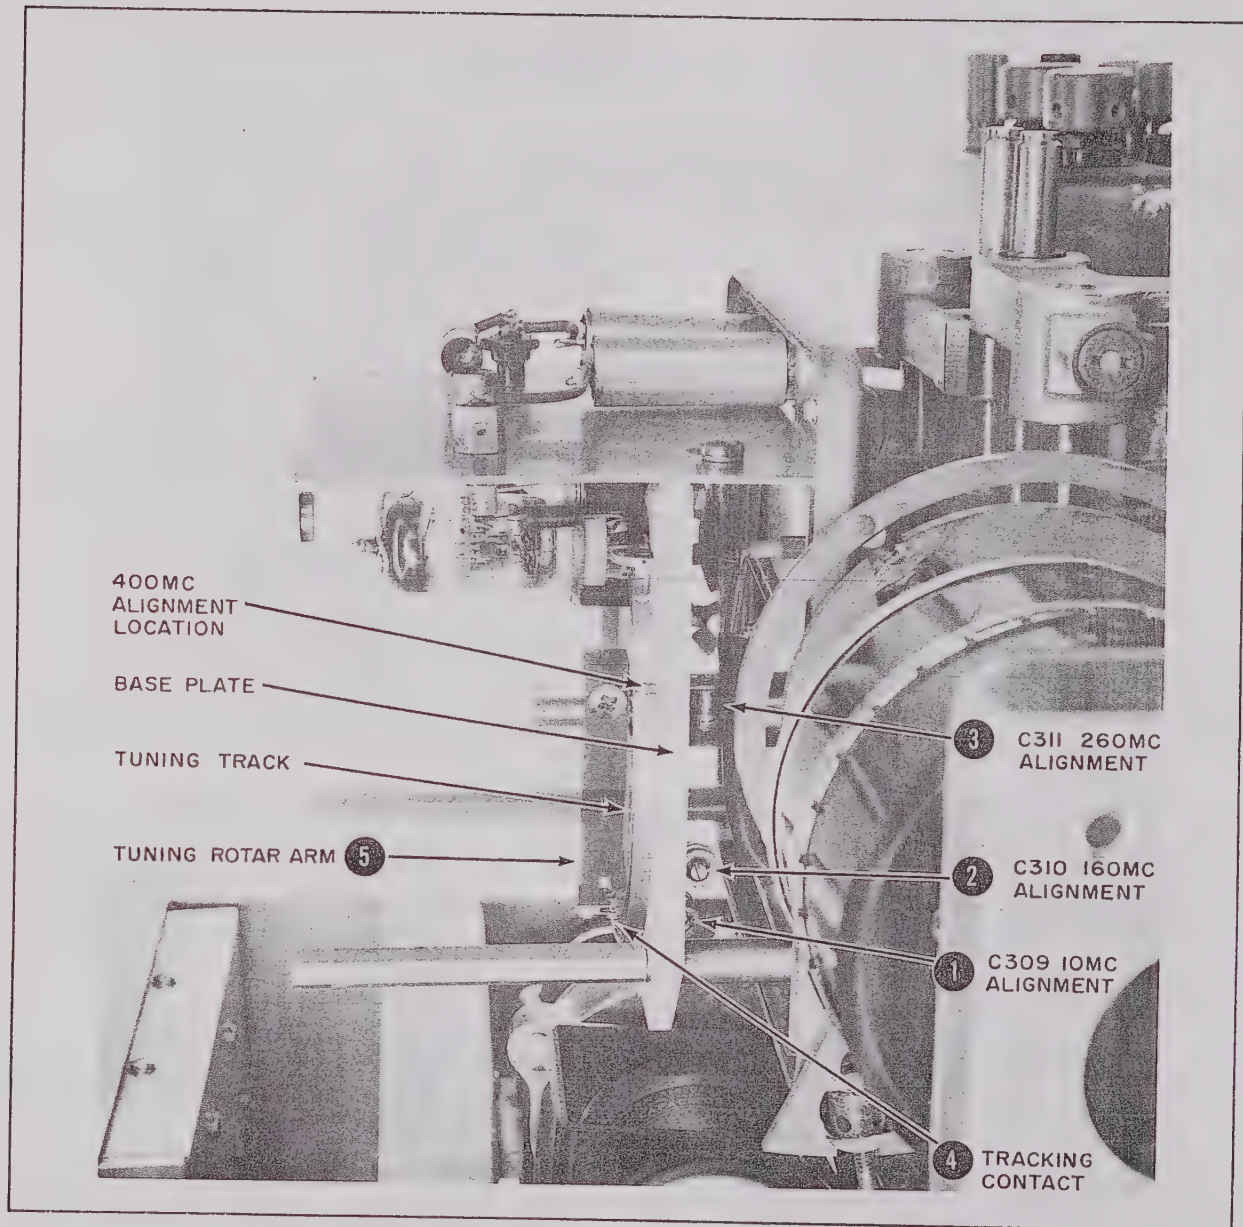

Figure V-2. Triode Oscillator with Cover Shield Removed.
20. C309, C310, C311 (Fig. V-2 Ref. 1, 2, and 3). These are frequency alignment trimmers for the 6AF4 Triode Oscillator.
21. Triode Oscillator slider arm (Fig. V-2 Ref. 4 and 5). This is another frequency alignment device for the triode oscillator. This, plus the three capacitors, C309, C310 and C311, provides 4-point alignment for this oscillator.